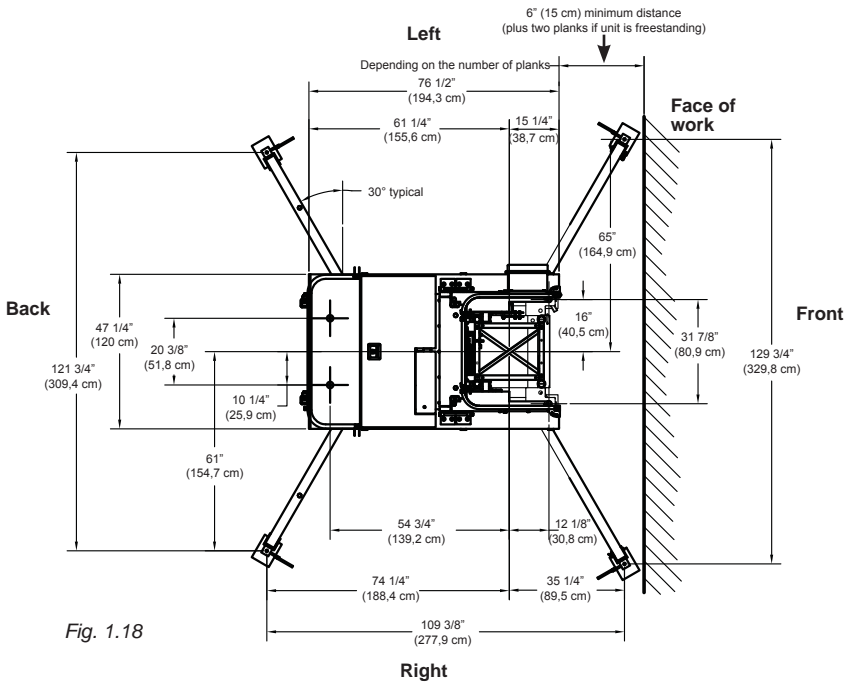

Fig. 1.18
- 6- Lift the motorized unit and align the base with the face of the work. Lower the unit into position. Open all four base outriggers and secure them in place with the lock pins. The **back** base outriggers must always be opened at an angle. In a **freestanding**, minimum two-plank installation, the **front** base outriggers must be opened at an **angle** (fig. 1.18). For a **tied** installation, the **front** base outriggers must be opened so that they are **parallel** to the face of the work. For any base outrigger configuration other than those described in this operator's manual, contact the distributor or the Hydro Mobile technical support team.